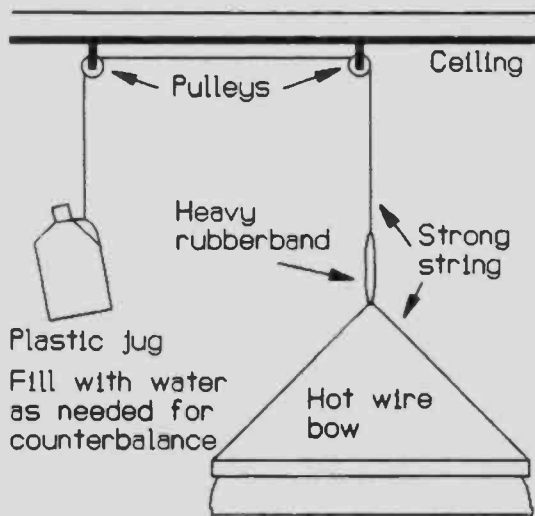

FIGURE 12-26: Hot wire bow suspension system.
*Figure 12-26* shows an optional suspension system for the bow. You can get more precise control if you don't hold the bow's weight while cutting. The suspension is easy to do